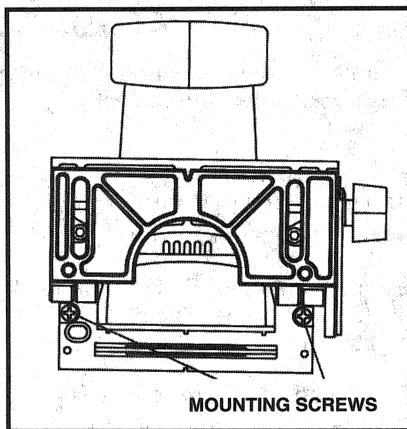

Fig. 3
2. Position the stabilizer pins and pressure springs (removed in step 1), into the new blade guard and tilt fence assembly, and assemble to plate joiner with the two new screws supplied with the tilt fence (see Fig. 3).